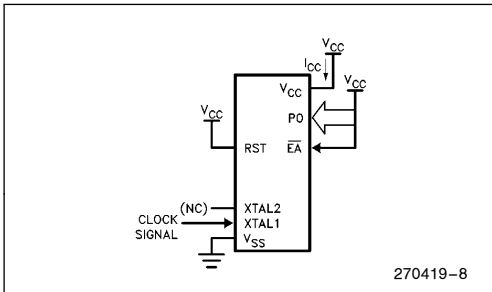

Figure 7. I_{CC} Test Condition, Active Mode. All other pins are disconnected.
6. See Figures 7 through 10 for ICC test conditions. Minimum V_{CC} for Power Down is 2.0V.